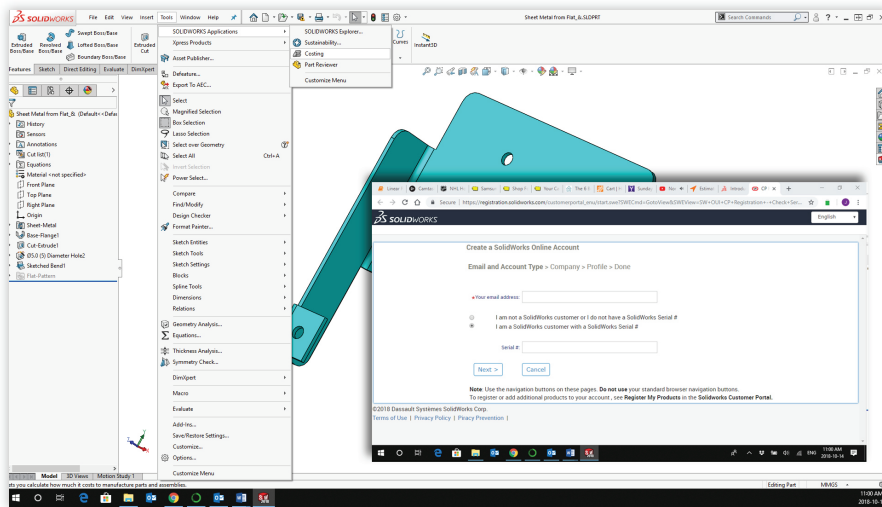

Fig. 2
1. Open the tool by selecting **Tools > SOLIDWORKS Applications > Costing**. See Fig. 2.